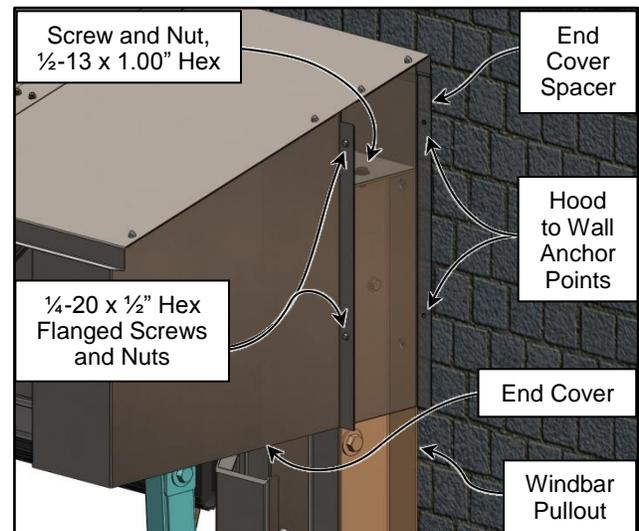

Figure 69
1. Fasten the Rear Windbar Hood Spreader to the Windbar Pullout as shown (See Figure 69)
2. Prior to attaching both the right and left head assembly end covers onto the front truss assembly, install both End Cover Spacers. Align the top of the spacers so they are flush w/ the Rear Windbar Hood Spreader. Anchor the End Cover Spacers to the wall. (See Figure 69)
3. Use  $1/4$ -20 fasteners to secure the End Cover Spacers to the End Covers. (See Figure 69)